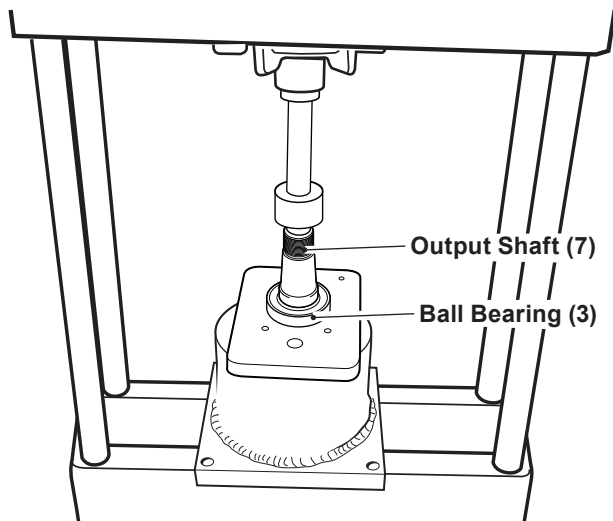

Figure 13, Output Shaft Seal
1. Remove castellated nut (1), woodruff key (6), plastic plugs (8), retaining ring (2), seven screws (22), seven washers (23), end cover (19), gearwheel set (17) with O-rings (16, 18), cardan shaft (15), distributor plate (14), O-ring (13), and the output shaft (7). See pages 4 - 8.
2. Using a holding tool, press ball bearing (3), washer (4), and shaft seal (5) off the output shaft (7). See figure 13.